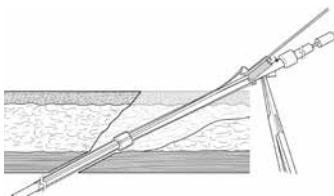

Figure 26
9. Position the Cuff Implantor Tool parallel with and over the catheter, between the two cuffs (Figure 26).